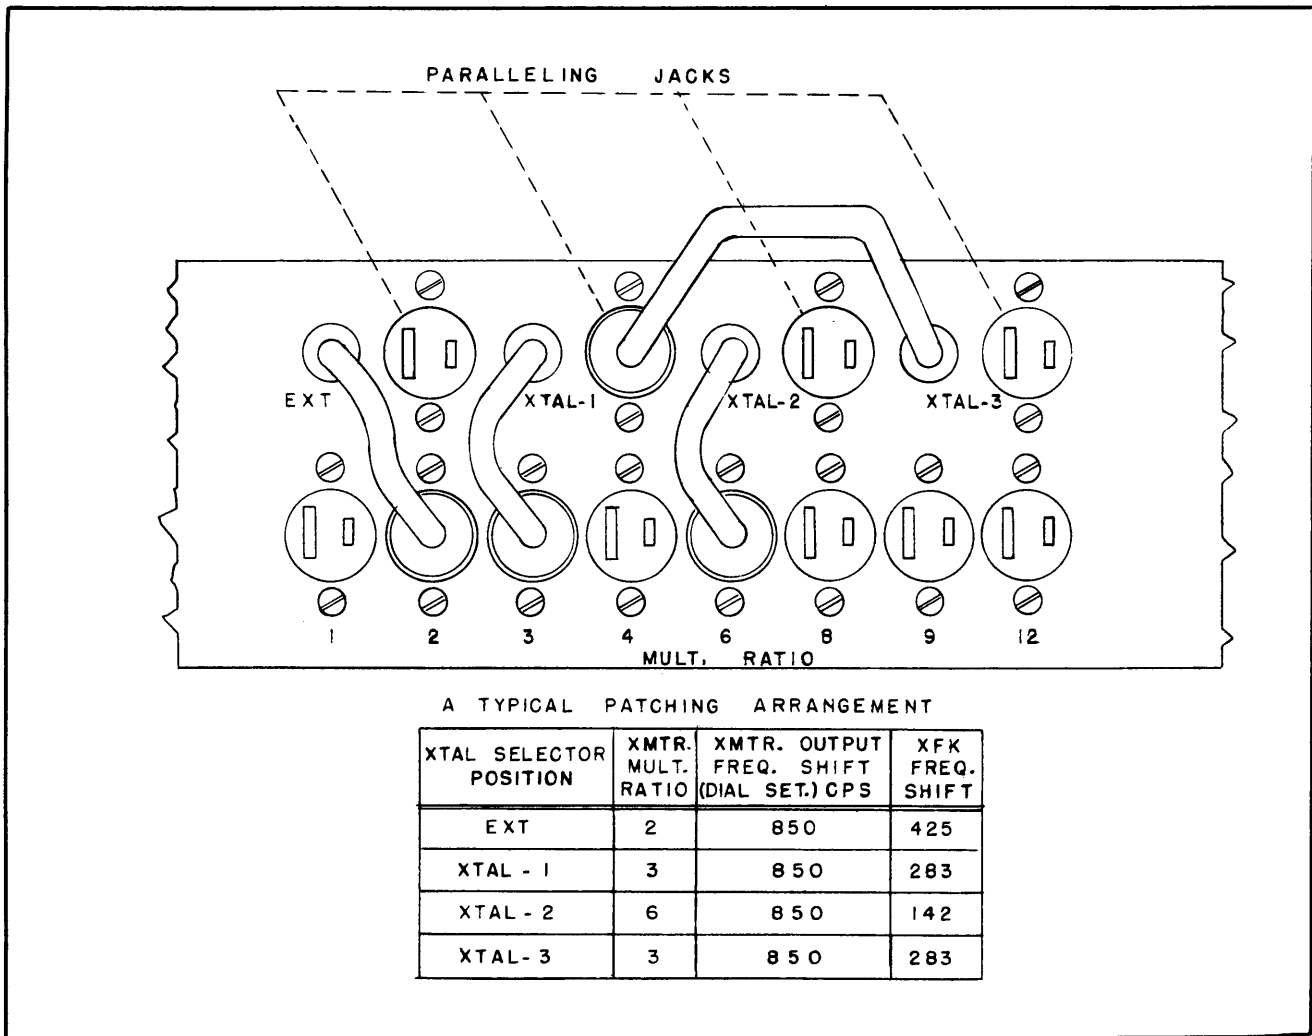

Figure 3-1 Multiplication Preset
b. Multiplication Preset - The proper transmitter multiplication ratio should be set at the rear of the chassis by means of the plug corresponding to the crystal position used on the front panel. Should the jack for any ratio be in use by another position, the plug may merely be inserted into the jack which is in parallel with the plug inserted into this particular ratio. This is illustrated in figure 3-1.